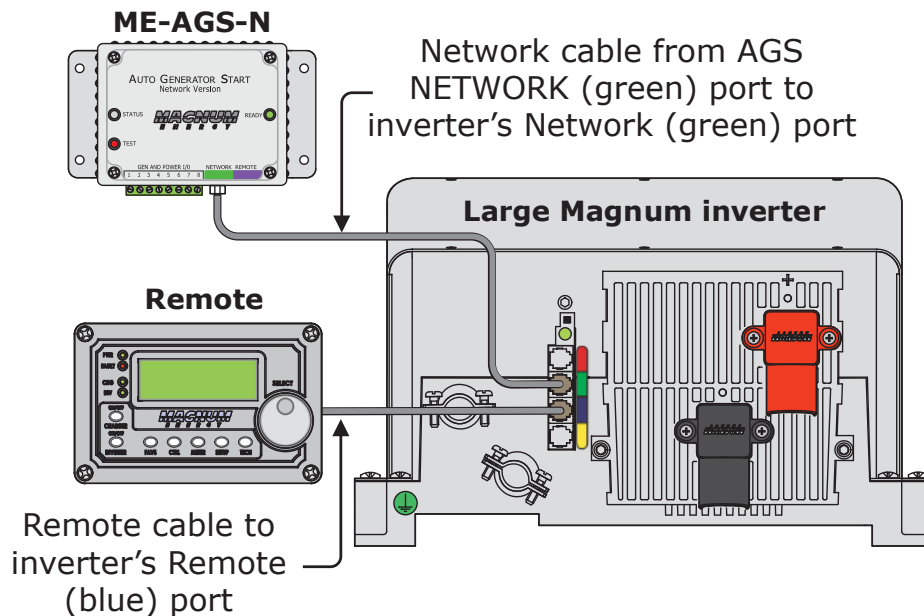

Figure 2-6, Connecting an AGS to an Inverter (Large)
- Large inverter (ME, RD, MS, MSH, MS-PE, MS-PAE Series)** – Connect one end of the communications cable to the AGS’s RJ14 NETWORK (green) port. Connect the other end of the communications cable to the RJ14 Network port (green) on the large inverter (see Figure 2-6).